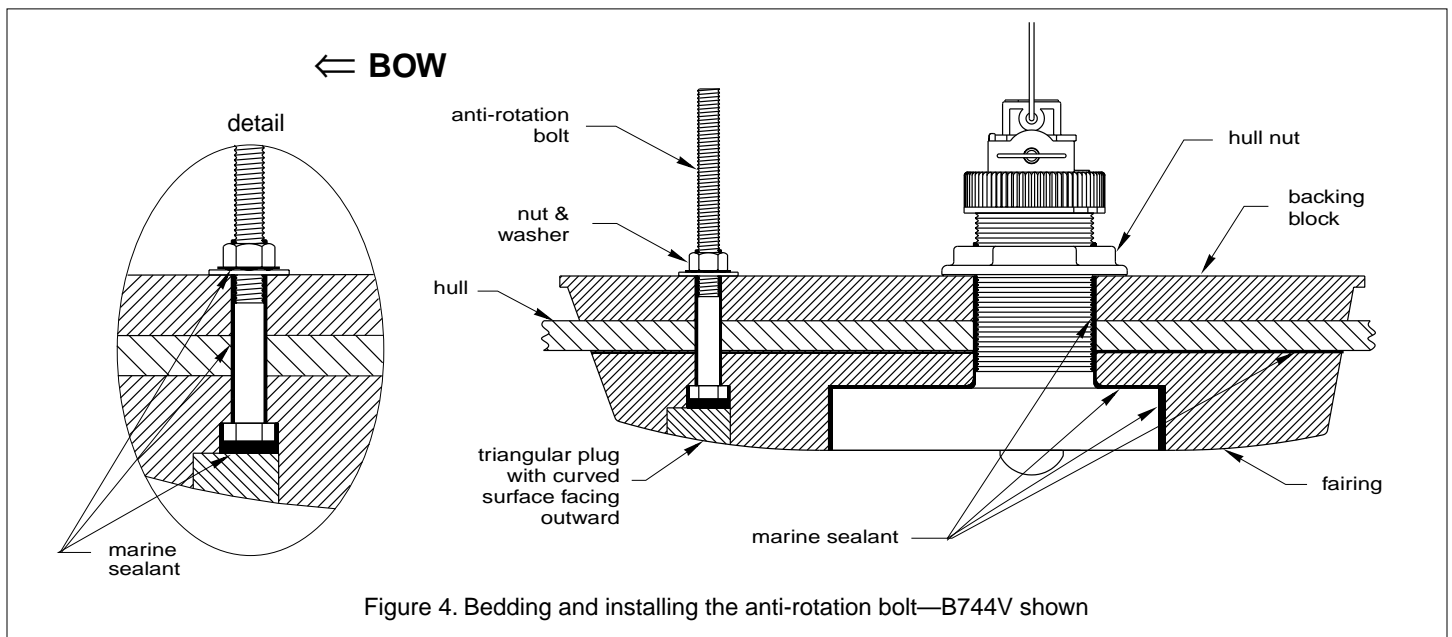

Figure 4. Bedding and installing the anti-rotation bolt—B744V shown
2. Thread the sensor cable through the large hole in the fairing and through the mounting hole in the hull. Seat the sensor firmly in the recess in the fairing (see Figure 4).
3. Apply a 2 mm (1/16") thick layer of marine sealant to the sides of the sensor that will contact the fairing and up the stem 6 mm (1/4") higher than the combined thickness of the fairing, hull, backing block, and hull nut. This will ensure there is marine sealant in the threads to seal the hull and hold the hull nut securely in place (see Figure 4).
1. From outside the hull, thread the cable through the mounting hole. Push the stem of the sensor (with the fairing in place) into the mounting hole using a twisting motion to squeeze out excess sealant (see Figure 4).
3. Apply a 2 mm (1/16") thick layer of marine sealant to the anti-rotation bolt, 6 mm (1/4") higher than the combined thickness of the fairing, hull, backing block, washer, and nut. This will ensure that there is marine sealant on the threads to seal the hull and hold the nut securely in place (see Figure 4).